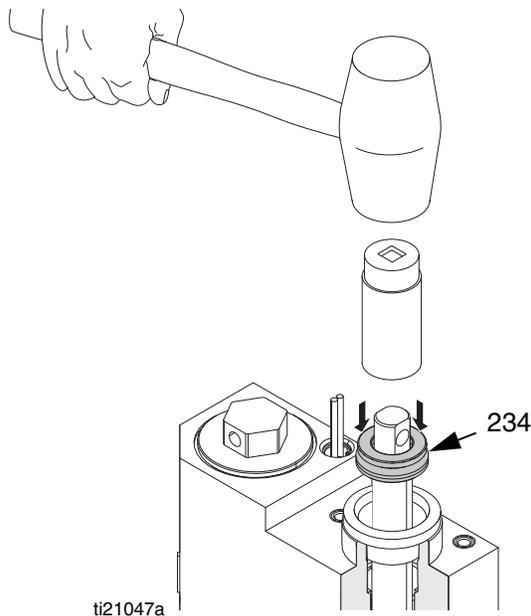

FIG. 29
3. Push the piston rod assembly (223) into the melter outlet manifold (203).
4. Grease the throat u-cup (234) and slide the u-cup over the piston rod (223) with the lips facing down.
5. Place a 7/8 in. deep-well socket (3/8 in. drive) over the piston rod (223) then use a rubber mallet to gently tap throat u-cup (234) into place. See FIG. 29.